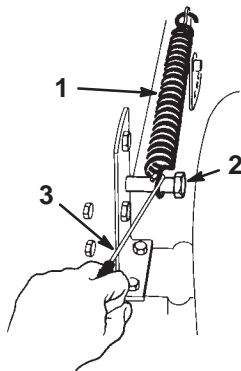

Figure 37
8. Remove the height-of-cut lift assist spring from the retaining bolt (Fig. 37), using the spring tool provided with the tractor. The spring is between the frame and the right rear wheel.
17. Move the height-of-cut lever into the D notch. Hook the lift assist spring onto the retaining bolt for storage (Fig. 37).